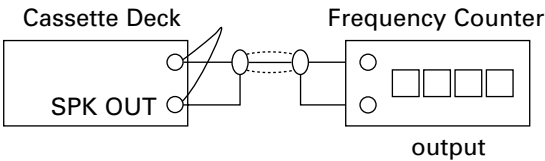

Figure 1-5
2) Connect the cassette deck to the frequency counter as in figure 1-5.